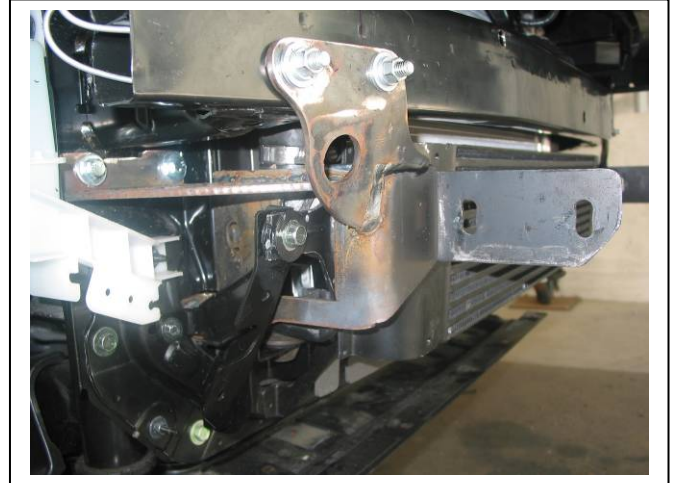

Figure 6 – Mount fitted on vehicle body
11. Fit ECB Steel mounting brackets (supplied) to radiator support panel using M8 x 40mm bolts, spring washers and flat washers (supplied). Place 30mm steel washers (supplied) between top holes in mounts and vehicle. **FINGER TIGHTEN ONLY. See figures 6. NOTE:** Intercooler mount bracket protrudes through opening in centre of ECB Steel mount brackets.